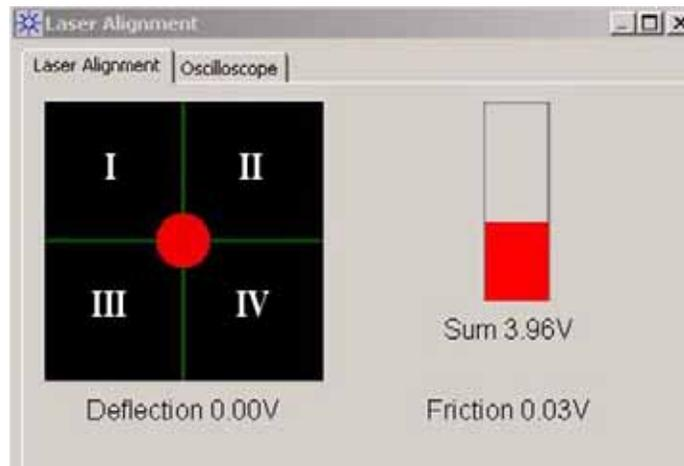

Figure 55 Laser Alignment window in PicoView
- 1 Launch PicoView. The Laser Alignment window (as well as other windows) will open, displaying the position of the laser spot on the photodiode detector (Figure 55). You can also click the **Laser Alignment** toolbar button to open the window. The meter to the right shows the Sum of all four quadrants. The Deflection signal is the difference between the top and bottom halves divided by the Sum. The Friction signal is the difference between the left and right halves divided by the Sum.